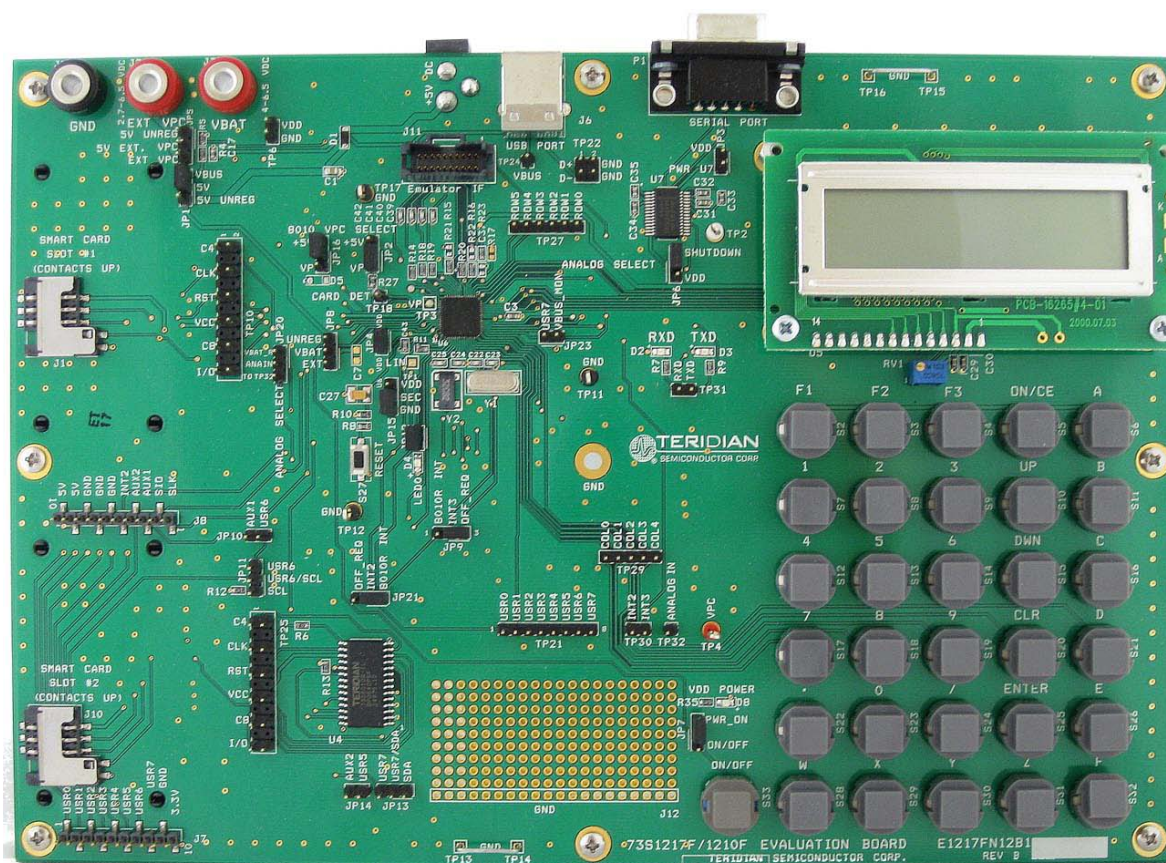

Figure 1: 73S1217F / 1210F Evaluation Board
- 73S1217F Evaluation Board: 4-layer, rectangular PWB as shown in Figure 1 (identification number E1217FN12B1 Rev B), containing the 73S1217F with the preloaded USB CCID application.
The 73S1217F Evaluation Board (see Figure 1) includes the following: